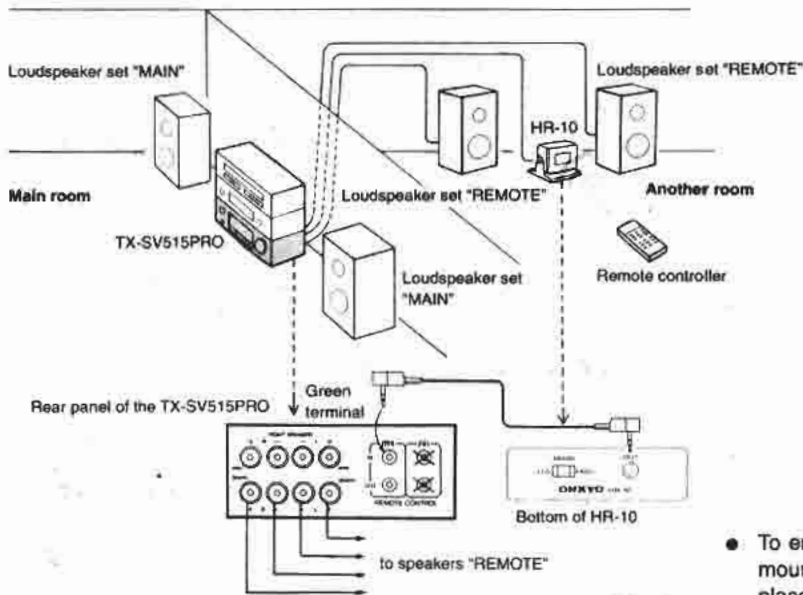

Fig. 1
- When using only the HR-10 (option) to control TX-SV515PRO in the main room from another room, connect them as shown in Fig. 1. In this case, ONKYO CD player and cassette tape deck bearing the **RI** mark connected to the TX-SV515PRO can be controlled.